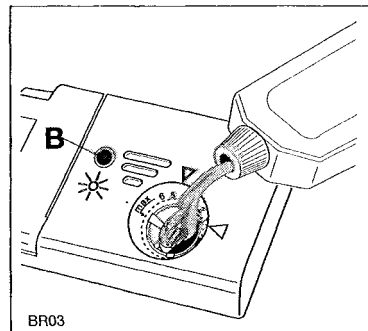

Fig. 5
You must top up again with rinse-aid when the rinse-aid refill indicator light **RINSE AID** on the control panel illuminates. When the rinse-aid dispenser is full, the indicator (B) on the rinse aid dispenser (Fig. 5) appears uniformly dark (after about 70-80 ml).